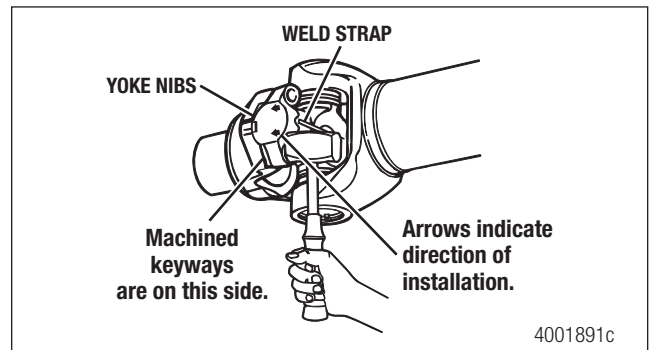

Figure 5.63
2. If necessary, tap the universal joint with a brass or copper hammer to ensure it is fully seated. Figure 5.63.